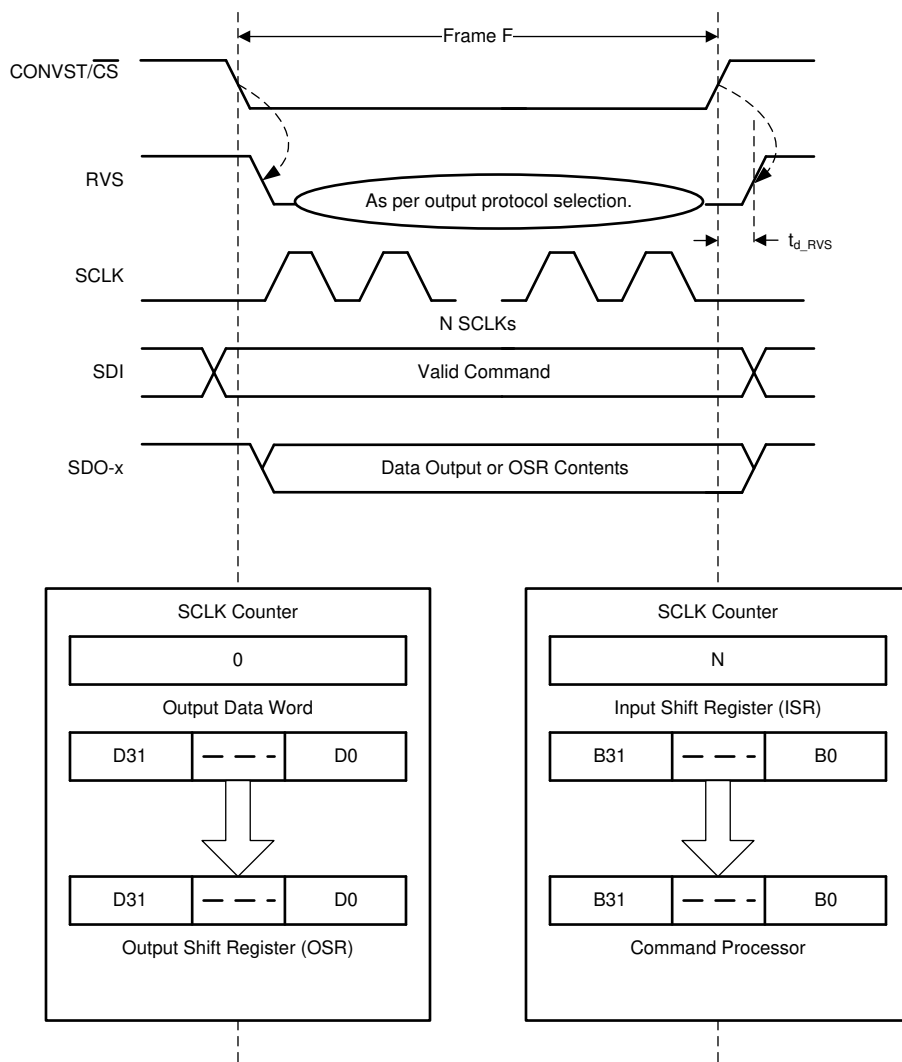

Figure 7-29. Data Transfer Frame
A data transfer frame between the device and the host controller begins at the falling edge of the CONVST/ $\overline{\text{CS}}$ pin and ends when the device starts conversion at the subsequent rising edge. The host controller can initiate a data transfer frame by bringing the CONVST/ $\overline{\text{CS}}$ signal low (as shown in Figure 7-29) after the end of the CONV phase, as described in the CONV State section.
- The device takes control of the data bus. As illustrated in Figure 7-29, the contents of the output data word are loaded into the 32-bit output shift register (OSR).
- As illustrated in Figure 7-29, the contents of the input shift register are transferred to the command processor for decoding and further action.